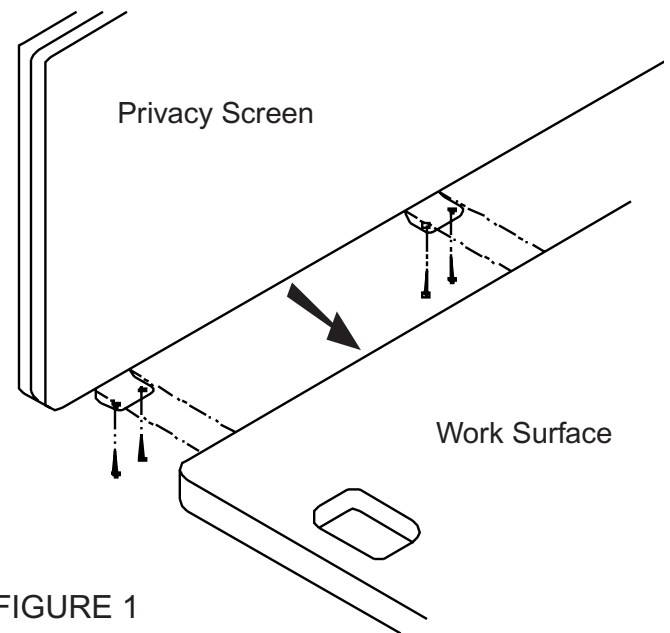

FIGURE 1
2. Attach to pre-drilled holes in work surface with #10 x 1" screws. (Figure 1)